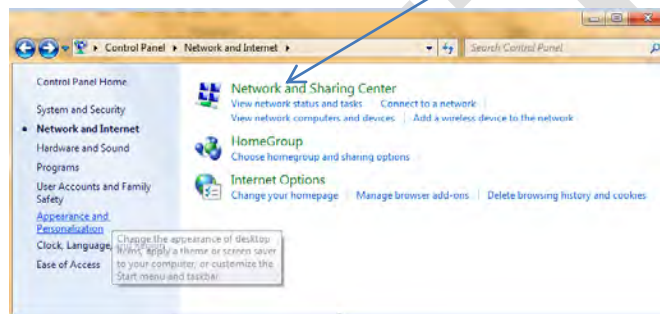

Fig 1
- b. When the Network and Internet windows opens click "**Network and Sharing Center**" (Fig 1)